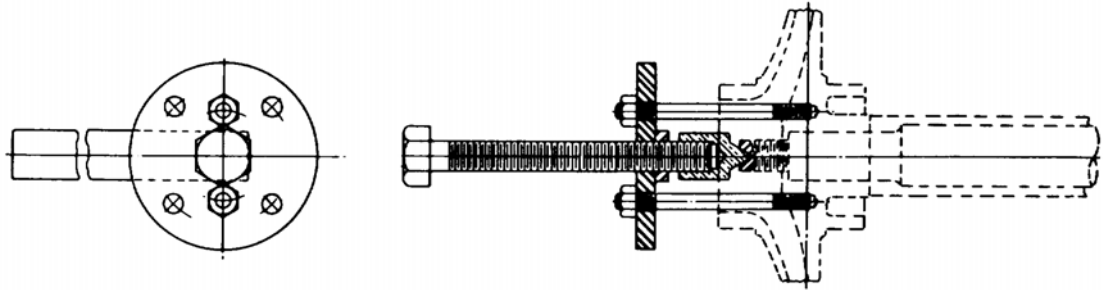

Figure 10: Impeller puller
3. Unscrew nuts from studs (356) in casing and remove suction cover (182).
4. Remove impeller nut (304) and impeller washer (199) from shaft.
5. By use of a suitable puller similar to that shown in Figure 10: Impeller puller on page 28 pull impeller from shaft (puller must push against shaft as shown. Do not use a type that pulls from casing). All impellers are provided with two tapped holes to facilitate use of puller. If key (178) remained in shaft, remove it.
4. Remove impeller nut (304) and washer (199).
5. By use of a suitable puller similar to that shown in Figure 10: Impeller puller on page 28 pull impeller from shaft. (Puller must push against shaft as shown. Do not use a type that pulls from casing). All impellers are provided with two tapped holes to facilitate use of puller.
9. Replace impeller, washer, nut and casing cover as directed in Figure 10: Impeller puller on page 28 Steps 16 through 23.
3. Unscrew nuts on studs (356) and remove suction cover (182) from casing.
5. By use of a suitable puller similar to that shown in Figure 10: Impeller puller on page 28, pull impeller from shaft. (Puller must push against shaft as shown. Do not use a type that pulls from casing). All impellers are provided with two tapped holes to facilitate use of puller.
9. Push impeller on the remaining distance with impeller nut (304) and washer (199).
10. Replace suction cover (182) and nuts on studs (356).